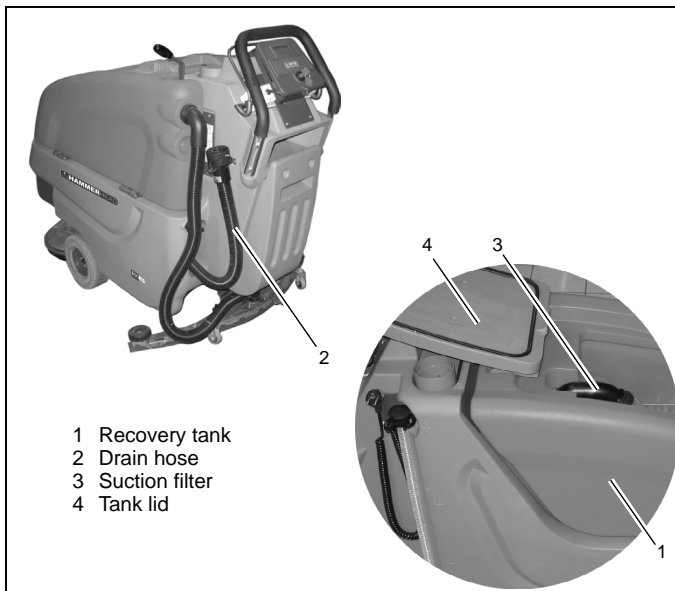

Fig.9
Clean recovery tank (Fig. 9/1) at daily intervals, as required or upon acoustic signal (increased vacuum motor speed).
4. Take drain hose (Fig. 9/2) from holder and empty recovery tank completely.
Clean recovery tank (Fig. 9/1) at daily intervals or as required.
2. Open tank lid (Fig. 9/4) of the recovery tank.
3. Take drain hose (Fig. 9/2) from holder and empty recovery tank completely.
Check suction filter (Fig. 9/3) for function at daily intervals and clean if required. The suction filter is clipped and can be easily removed.